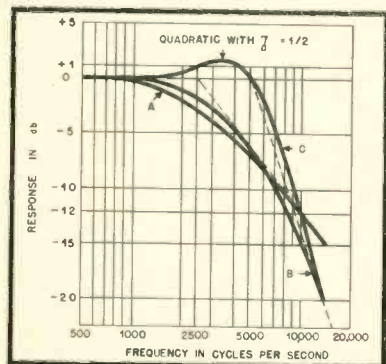

Fig. 1. Frequency response of a single RC lag, a double RC lag, and a quadratic.
Referring to Fig. 1, let us assume that a 12-db attenuation at 10 kc is required. It is obvious that the smaller the slope, the further to the left we shall have to start attenuating in order to obtain the required 12 db attenuation at 10 kc. The frequency band between the turnover point and the 10-kc point will also be attenuated to a degree proportional to the slope of the curve employed. For example, if a single R-C lag is used with a slope of 6 db per octave, the turnover will have to be two octaves below 10 kc, or at 2500 cps as curve (A) indicates. The signal will be attenuated by 3 db at 2500 cps and 6 db (ideally) at 5 kc. Most tone controls follow this curve and their effectiveness is therefore limited.
By cascading two R-C lags having the same time constant, a 12-db-per-octave attenuation is obtained. The turnover point is one octave to the left, but as seen from curve (B) of Fig. 1, the midfrequencies also suffer a proportional attenuation, although not as great as the single R-C lag.